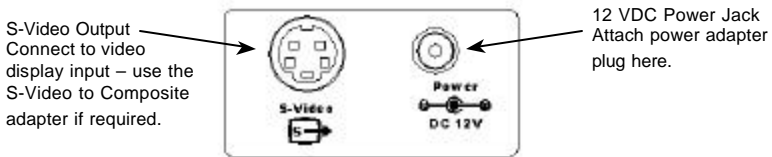

Figure 1: Back Panel of FlexCam iCam
Step 1: Using the provided 12 VDC power supply only, attach the power plug to the power jack on the back of the FlexCam iCam. Then plug the power adapter into the wall outlet. See Figures 1 & 2.
Step 2: Connect the S-Video output of the FlexCam iCam to the input of a video monitor, TV, VCR, computer, or other video display device. Use the female S-Video to male RCA plug (composite) video adapter if required. (Note: PAL models are shipped with a SCART adapter for additional connection flexibility.) See Figures 1 & 2.